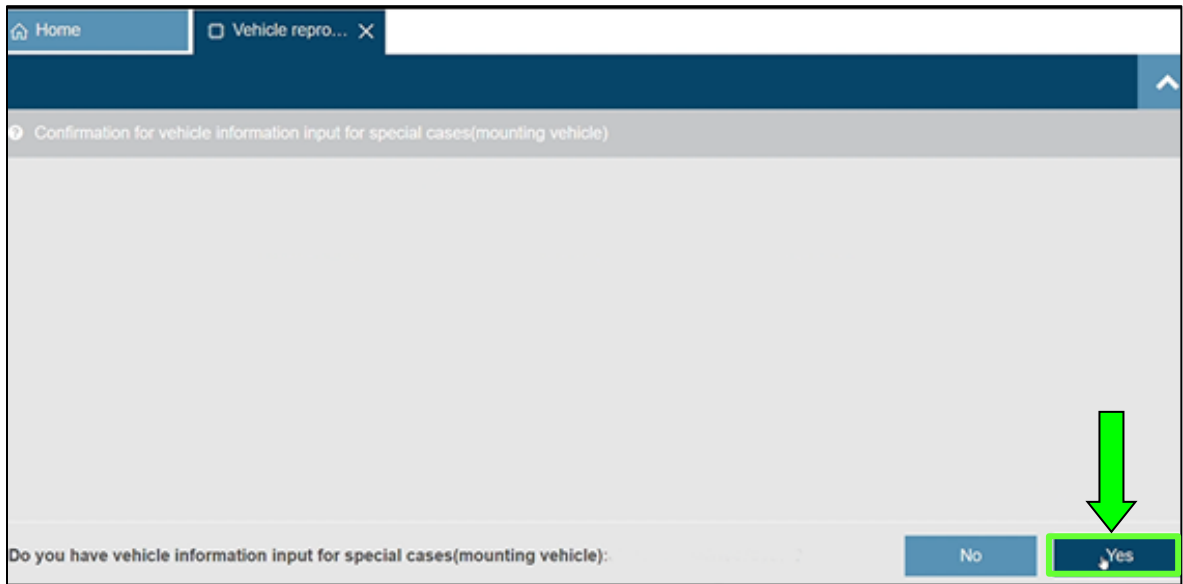

Figure 13
14. When the screen shown in Figure 13 is displayed, select **Yes**.